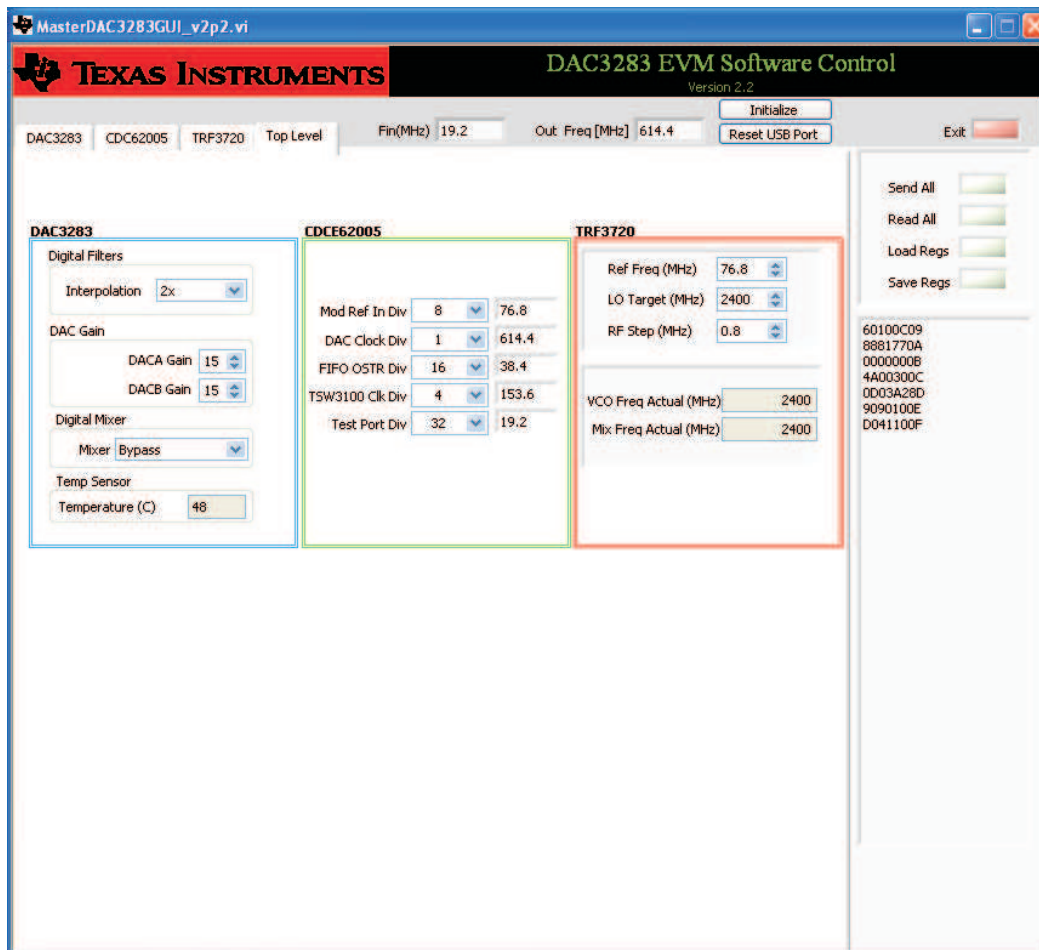

Figure 4. DAC3283 EVM Software Configuration
- (b) Configure the *Top Level* tab the same as shown in Figure 4. Set *Test Port Div* to 32 to set the reference frequency of 19.2 MHz. All other settings remain in default values. Configure the DAC interpolation, FPGA clock (TSW3100 CLK), and the FIFO OSTR clock based on the data rate, FPGA configuration, and system requirement. For more information, please refer to the DAC3283 datasheet.